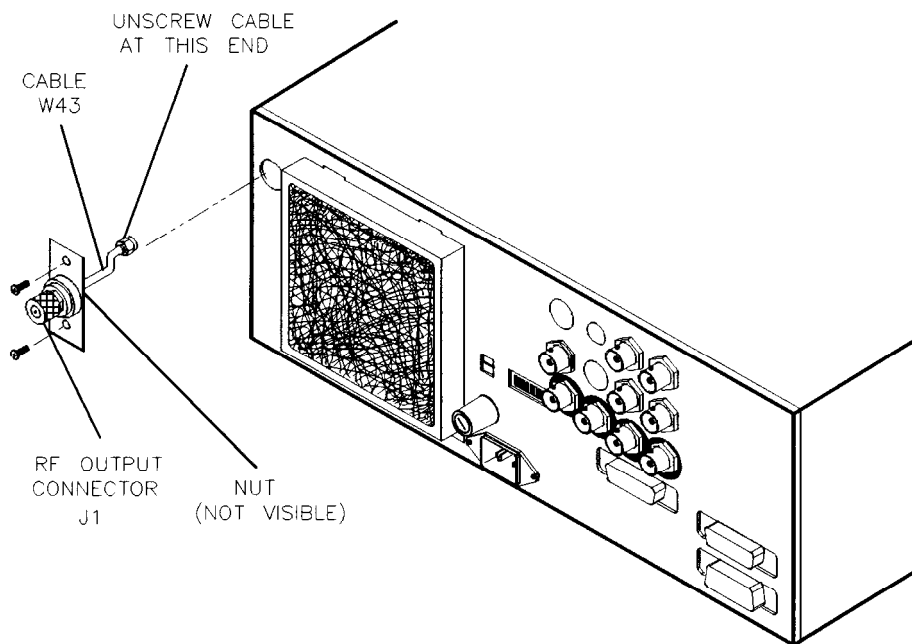

Figure 7-33. Removing RF Output Connector
1. Disconnect cable W43 at bridge detector A30. Refer to Figure 7-33.